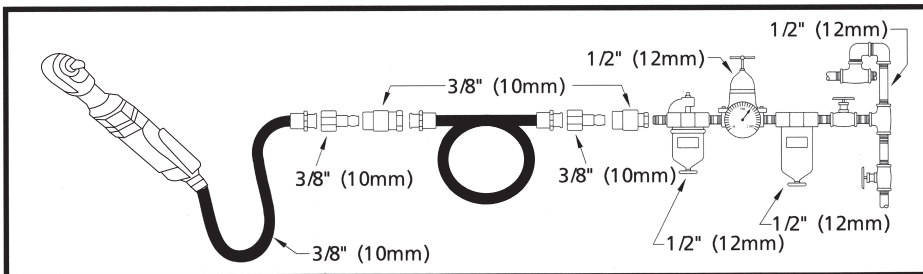

Figure 2 - Air Diagram
1. Supply tool with 90 psi of clean, dry air. Higher pressure drastically reduces tool life. Connect tool to air line using pipe, hose, and fitting sizes shown in Figure 2.
Do not use quick disconnect couplings at tool. See Figure 2 for correct set-up.